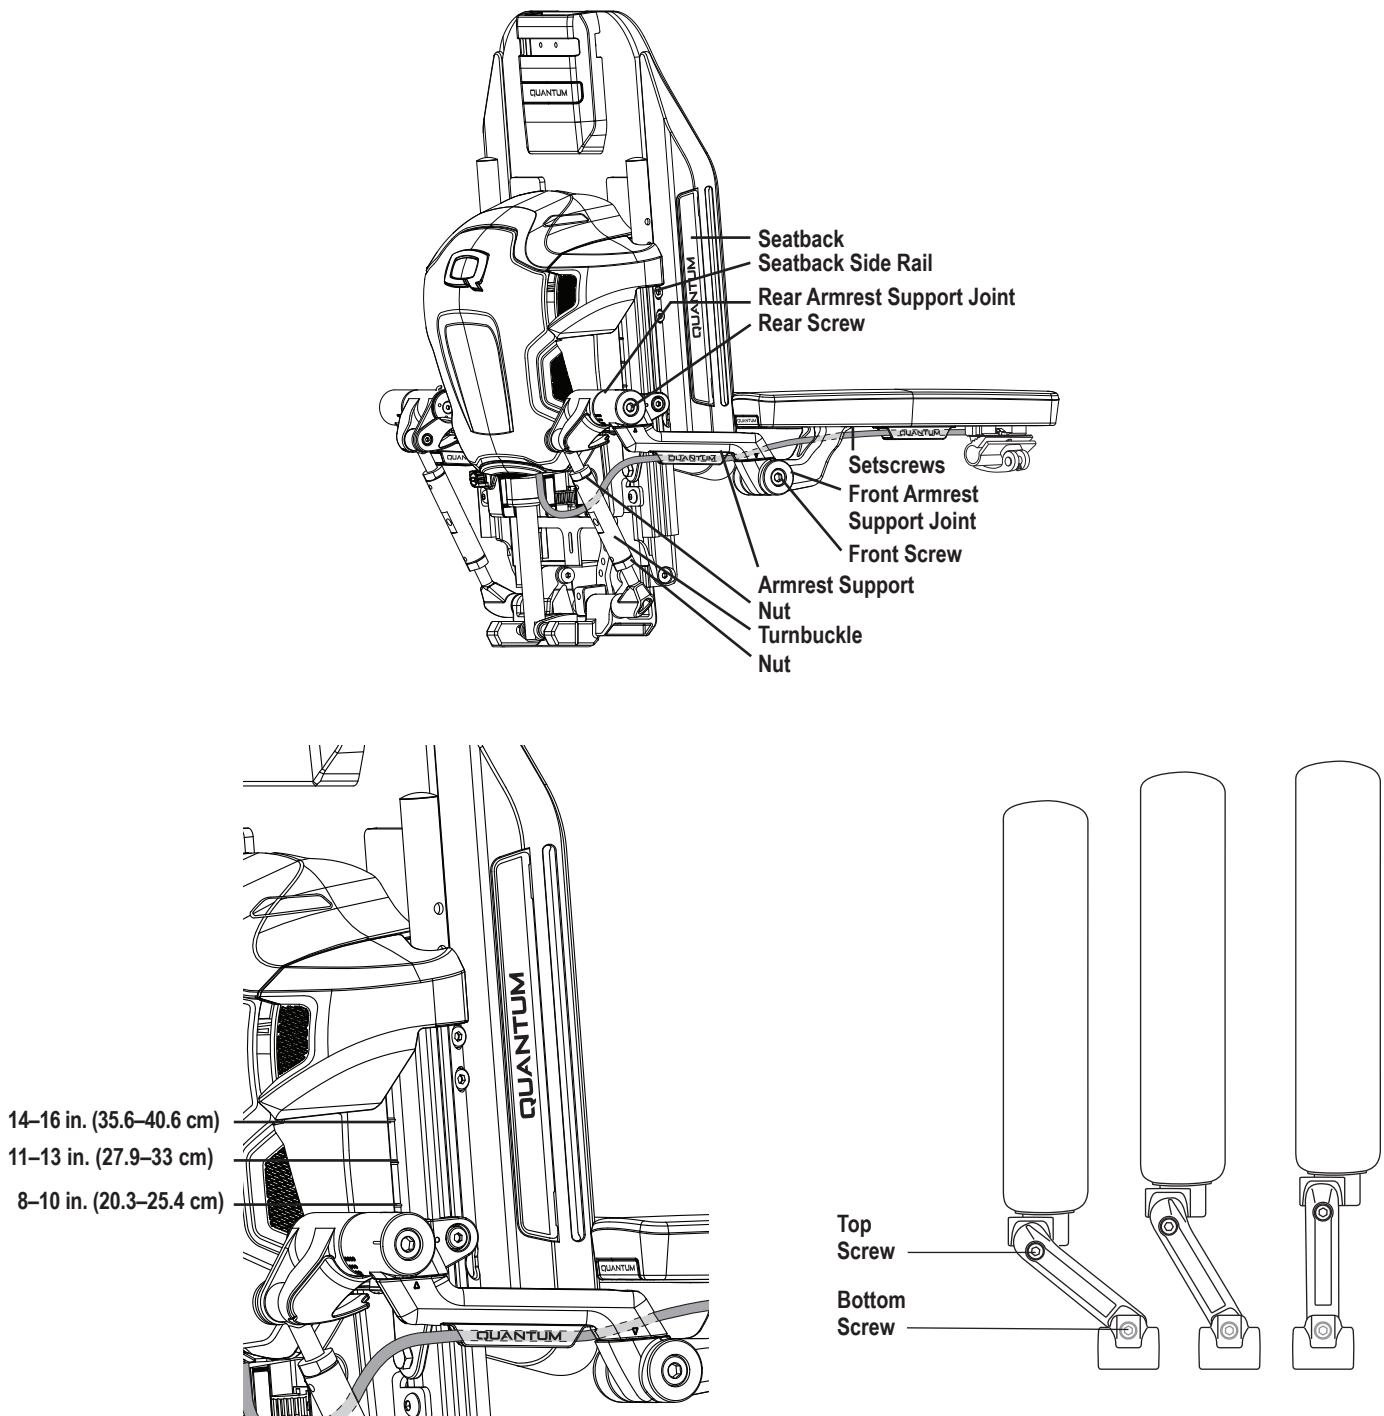

Figure 8. Flip-up Armrest Height and Angle Adjustments
2. Loosen rear screw on rear armrest support joint. **See figure 8.**
3. Make sure on seatback side rail your rear pivot link is mounted to proper height relative to back. **See figure 8.**
5. Raise or lower the armrest to set armrest to the desired height or location mark. **See figure 8.**
7. Loosen front screw on front armrest support joint. **See figure 8.**
9. Tighten front screw on front armrest support joint. **See figure 8.**
2. Loosen nut, if necessary. **See figure 8.**
4. Tighten front screw on front armrest support joint. **See figure 8.**
5. Tighten nut if necessary. **See figure 8.**
1. Loosen bottom screw underneath the rear of the armrest support and adjust to the desired width. **See figure 8.**
3. Loosen top screw on top of armrest support joint and adjust to make the armrest perpendicular to the seat pan. **See figure 8.**
2. Remove the rear screw of the rear armrest support joint. **See figure 8.**
1. Support the weight of the armrest. **See figure 8.**